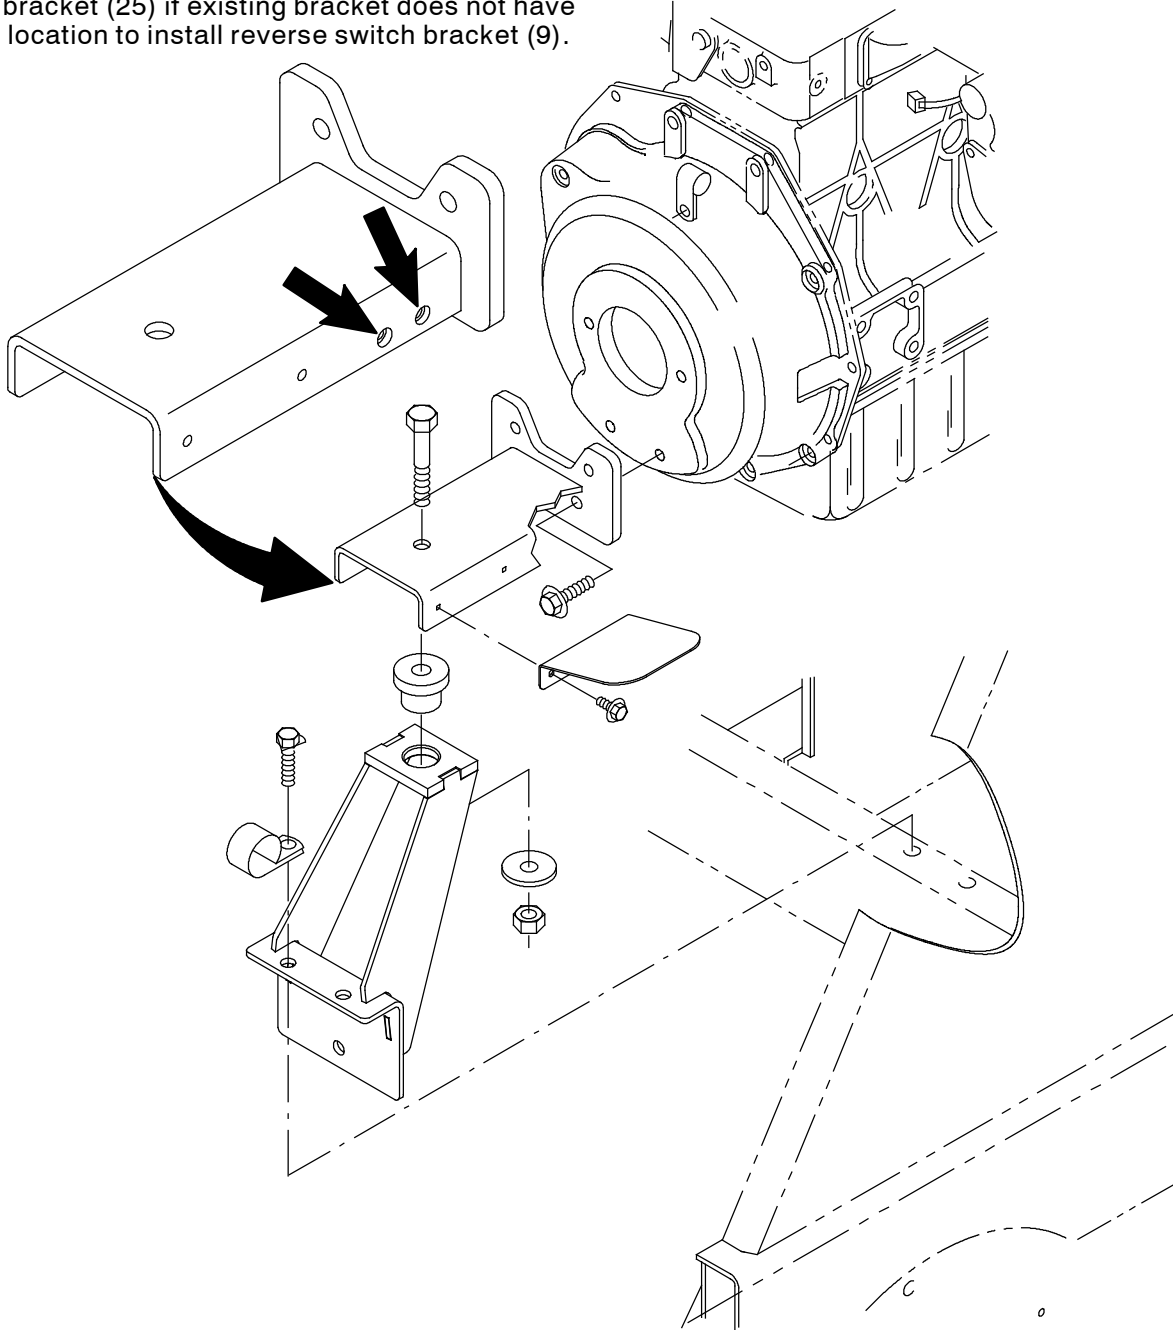

FIG. 1
4. Check the rear engine mounting bracket. If rear engine mounting bracket has a location for installing the reverse switch bracket (9) proceed to the next step. If rear engine mounting bracket does not have location for installing reverse switch bracket replace the rear engine mounting bracket with new rear engine mounting bracket (25). (Fig. 1)